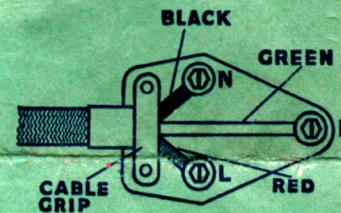

Fig. 1
- (b) Connect the green flex lead, which is the earth, to the terminal of the remaining larger pin of the plug. (see Fig. 1).